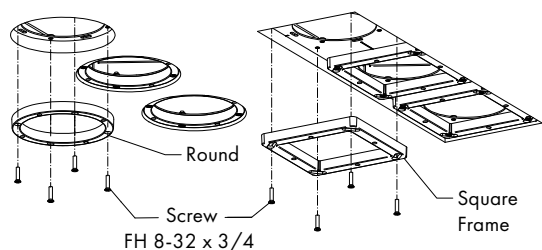

FIG 4.3 Install Frames
STEP 2 Install Frames to housing. Note: Round or Square Frames can be installed before or after ceiling board installation - **FIG 4.3 & 4.4**.
For all Trim types - Tighten trim against ceiling material using four Phillips screws in middle of trim - **FIG 4.3**. Once plaster or compound has been applied, no further adjustment to the trim is possible.